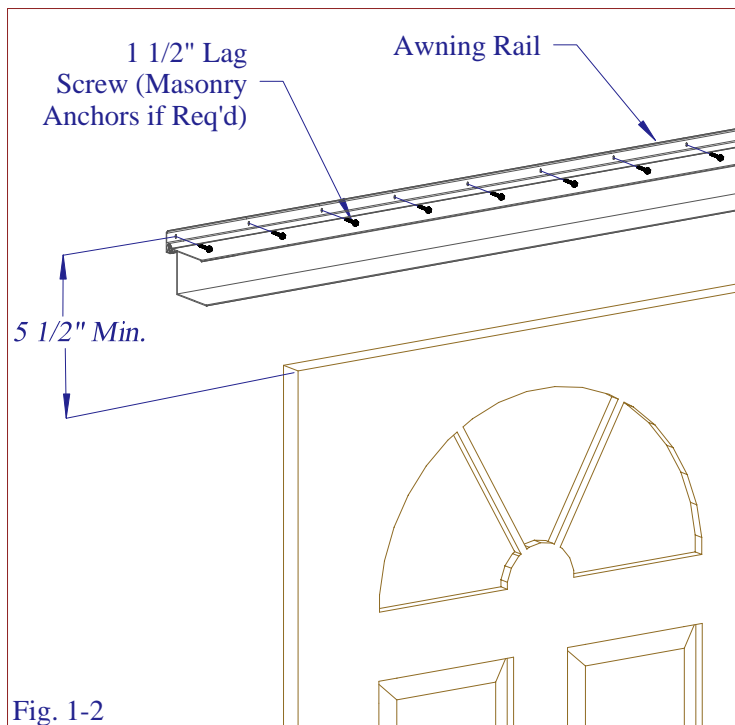

Fig. 1-2
- Align holes in awning rail with level line, and attach awning rail / mounting channel assembly to existing structure with 1 1/2" lag screws (see Fig. 1-2).